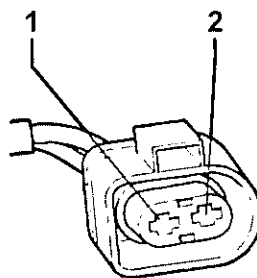

Fig 7 Connector plug for solenoid valve for boost pressure control (N75)
13.6 If the set-point value is attained, switch on the ignition, measure the supply voltage on plug contact one (see Fig 7). The set-point value should approximately match the battery voltage supply.